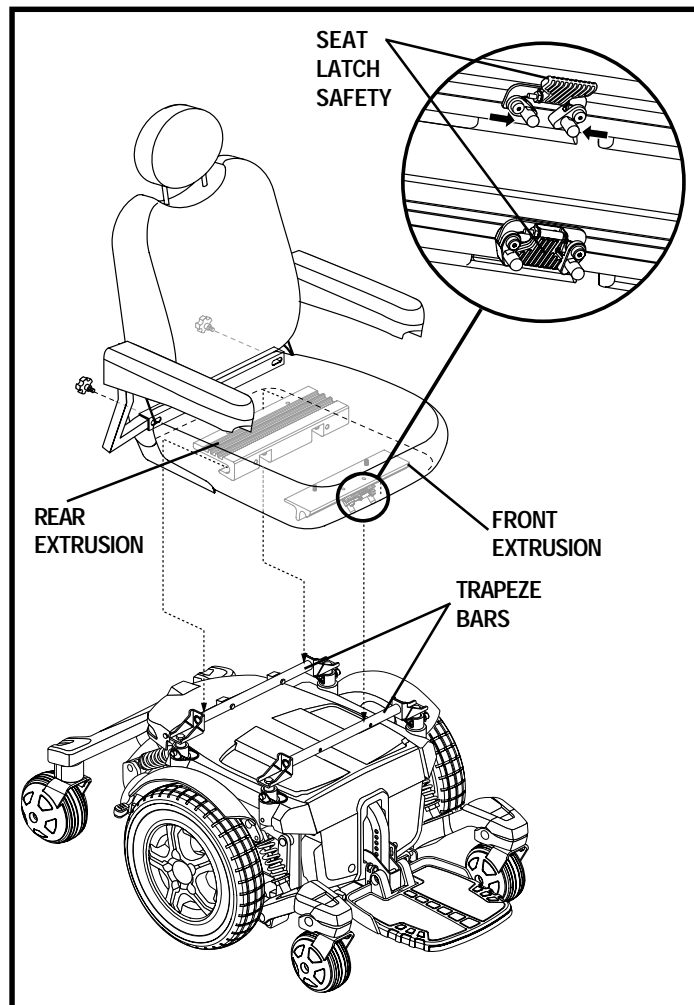

Figure 11. Universal Mounting System and Contour Seat
It may be necessary to install the seat either prior to initial operation or after transporting your power chair. Contour seats are attached to the power base with the Universal Mounting System (UMS). The UMS consists of universal parts that may be attached to the seat, regardless of seat width or seat depth. The two main components are aluminum extrusions mounted to the seat base. These extrusions attach to a pair of trapeze bars that are mounted to the power base. See figure 11. If your power chair is equipped with a Synergy Seat or a Synergy TRU-Balance Power Positioning System, refer to the information provided in separate manuals.
1. Tilt the seat back and slide the rear extrusion onto the rear trapeze bar. See figure 11.
5. Flip up the seat latch safety. See figure 11.